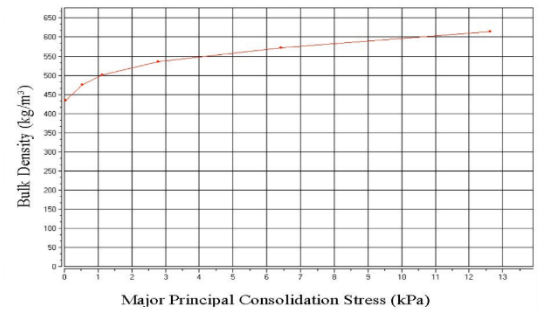

Figure 3: Baby Formula Bulk Density
- Figure 3 illustrates the bulk density at different consolidating stresses. The baby formula had an initial fill density of approximately 440 kg/m3, which increased to around 620 kg/m3 at 12.5 kPa.